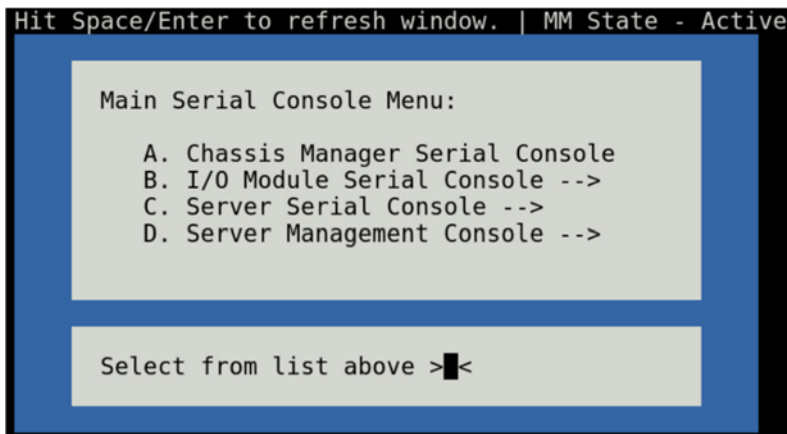

Figure 3 : Serial console main menu
- Run a terminal emulator program like TeraTerm or Putty and open the COM port with 115200 baud, 8 bits, no parity settings. Once the connection is established, you should see the serial console menu as shown in Figure 3.